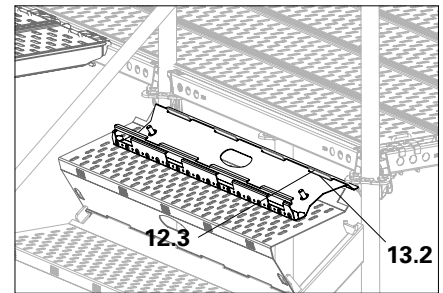

Fig. A2.11b
2. Set the End Step UAE (13) down flat on last step (12). (Fig. A2.11b)